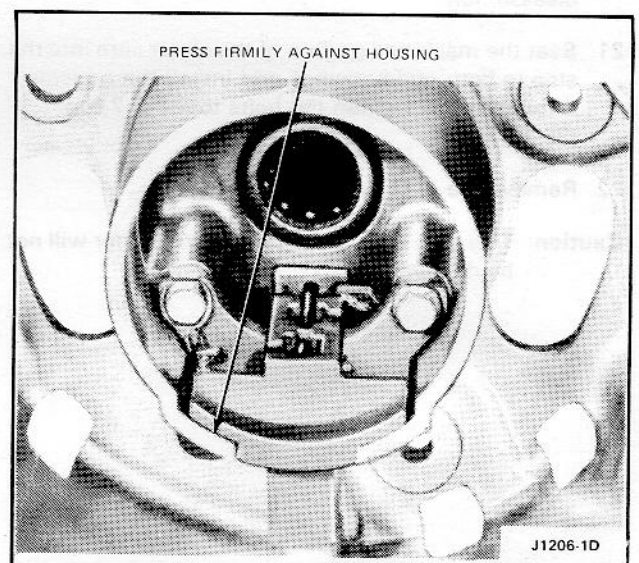

Fig. 19 - Brush Lead Positions
11. Position the brush holder in the rear housing and install the attaching screws. Tighten the screws to 1.9-2.8 Nm (17-25 ft-lbs). Press the brush holder firmly against the housing while tightening the screws. Make sure the ground brush wiring eyelet is positioned under the screw before tightening (Fig. 19).